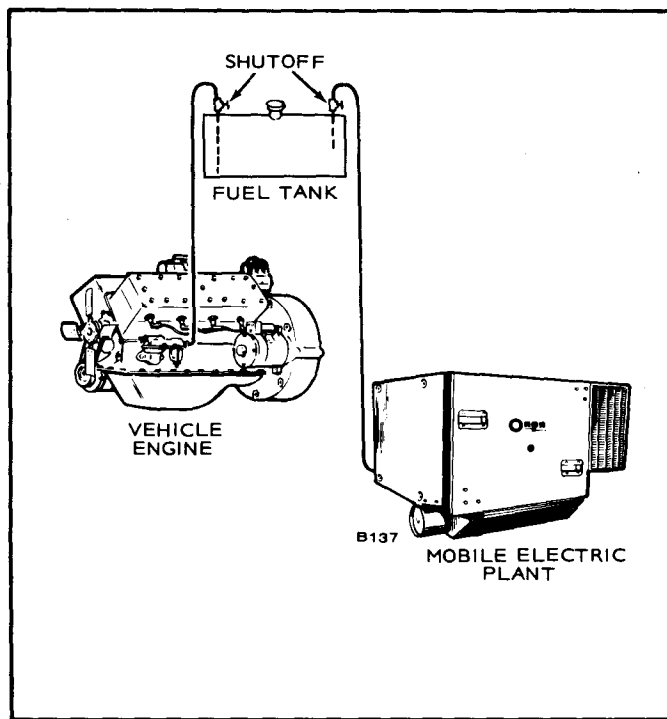

FIGURE 3. SINGLE TANK FUEL SYSTEM
1. Installing a new outlet in the fuel tank. If the fuel tank has an unused outlet, use it. See Figure 3.